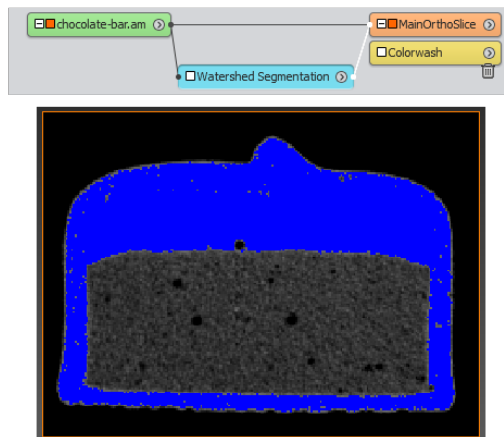

Figure 6.78: The *Watershed Segmentation* wizard at step 6.
- You can use 1041-1910 as range here (see Figure 6.78). The mousse area should be avoided as much as possible.